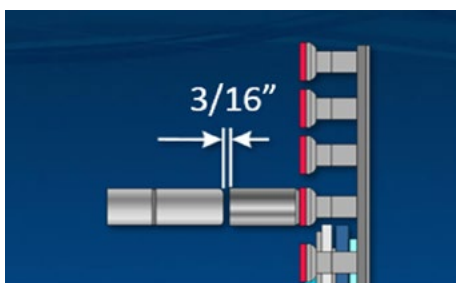

Figure 6
1. Place a can on the disk transfer and adjust the disk until there is a 3/16 inch [3 mm] gap between the cut edge of the can and the end of the mandrel. (Figure 6)